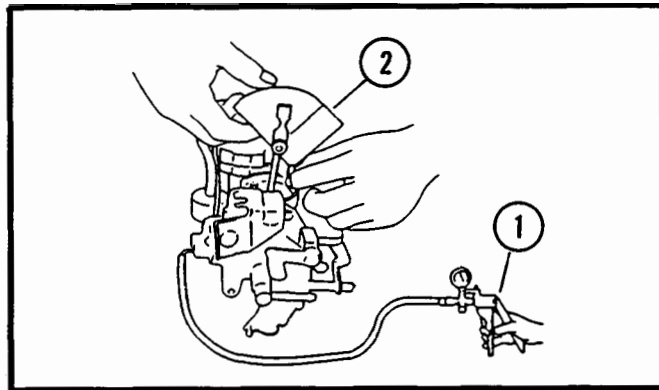

Figure 25.
2. Apply 15 inches of mercury vacuum to the diaphragm. Check the choke plate opening angle. Specified choke plate opening angle is 35° to 41° from horizontal plane. See Figure 25.